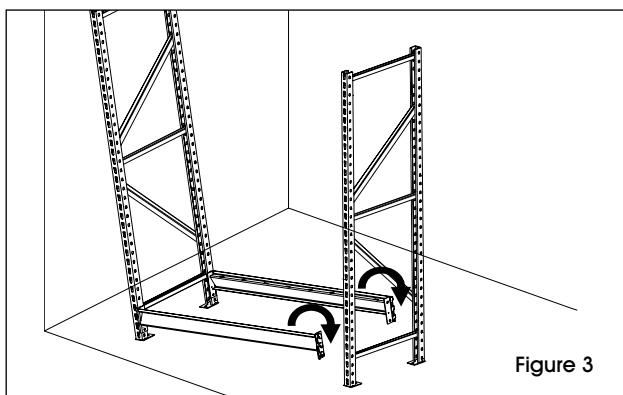

Figure 3
3. Holding the second upright in place, lift and hook the shelf beams into place. (See Figure 3)